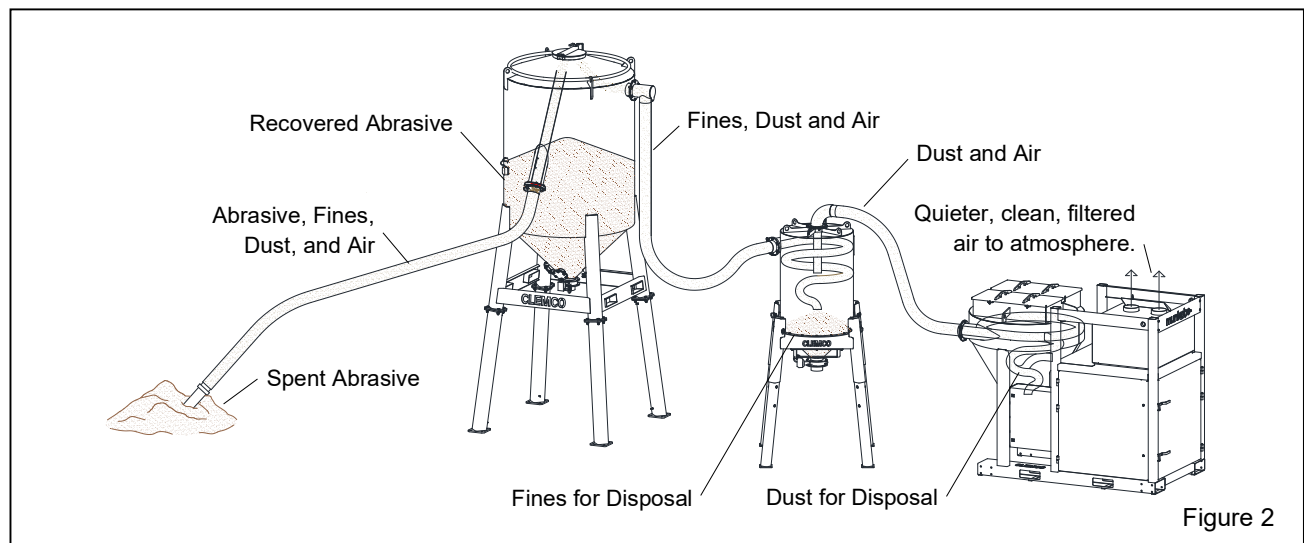

Figure 2
1.5 Theory of Operation – Figure 2